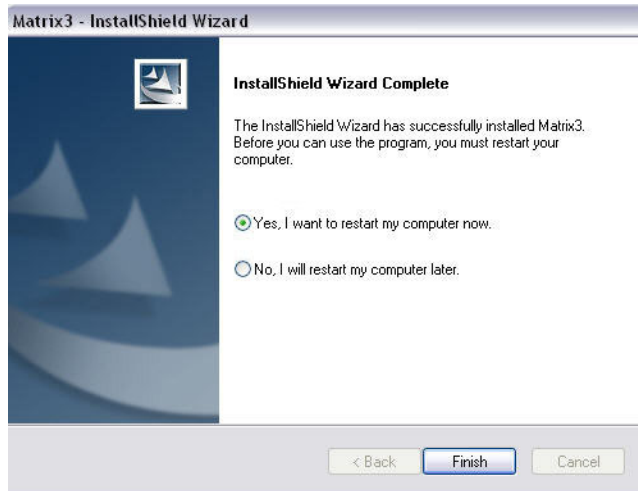

FIG. 10
11. When the installation is complete the screen shown in FIG. 10 displays. Before Matrix functions on the PC you will have to reboot the computer. Select Yes, I want to restart my computer and click the **Finish** button to reboot.